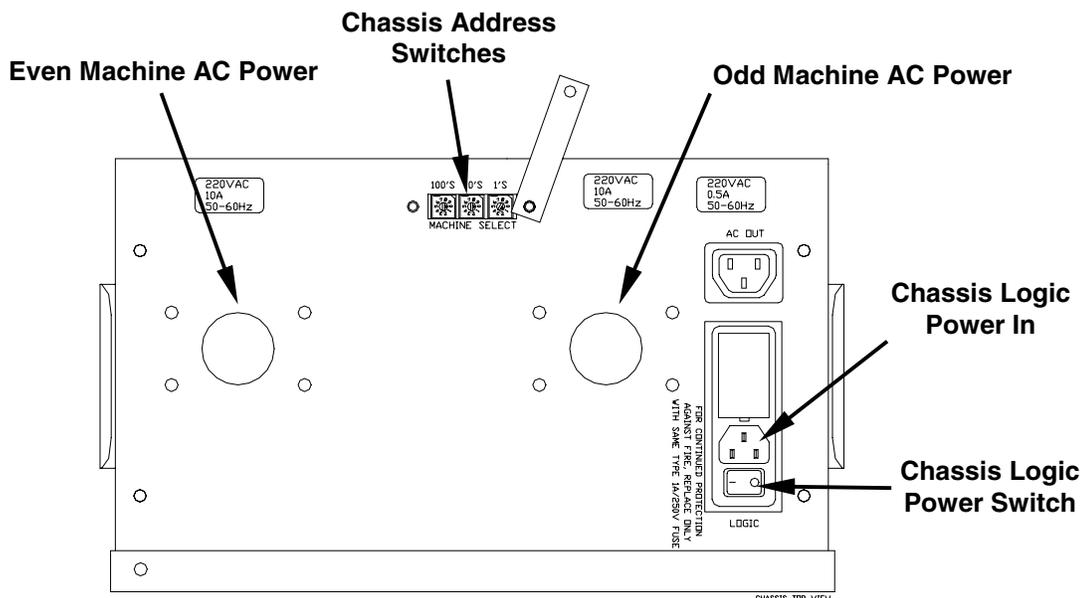

Figure 5, 90XL Chassis, Top View
- a. Connect the odd pinspotter's AC power cable (090-005-855) coming from the power source to the chassis' odd machine power connector (see Figure 5).